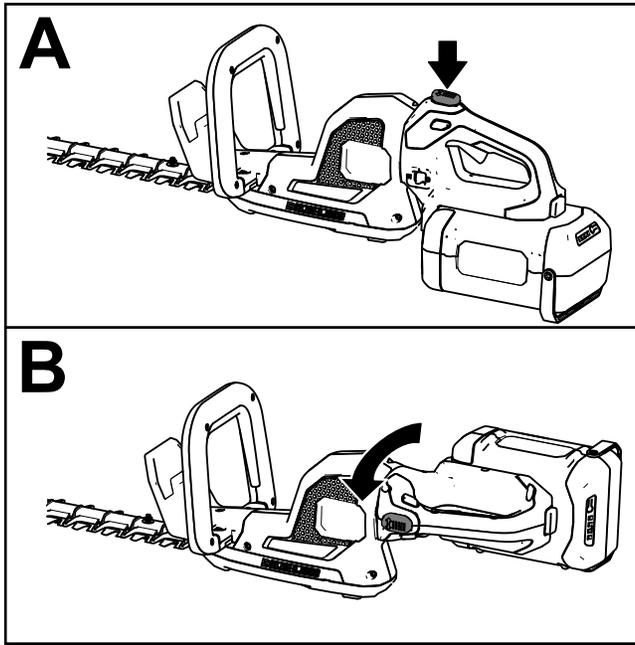

Figure 7
1. Press and hold the rotational lock button (A of Figure 7).
2. Rotate the handle 90° to the right or left depending on desired cutting direction, then release the rotational lock button to lock the handle in the desired position (B of Figure 7).